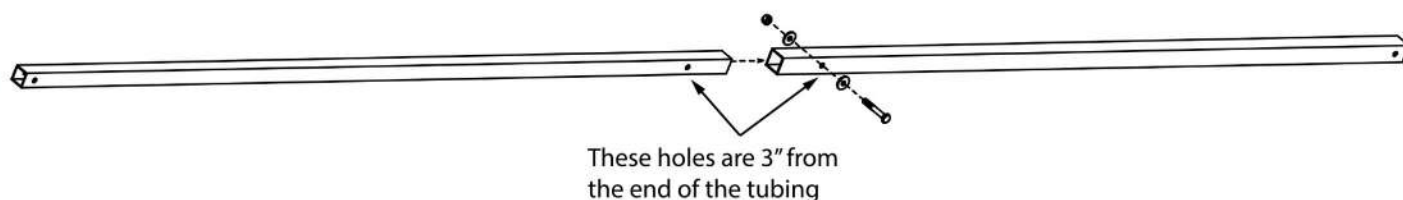

Figure 6.
Step 6. Assemble the six cross braces by sliding the 7/8" tube inside the 1" tube and secure with one 1/4" x 1-3/4" bolt two washers and a nut as seen in Figure 6. Now try to pull the two pieces apart to ensure that the bolt went thru the hole. Tighten the bolts at this time.